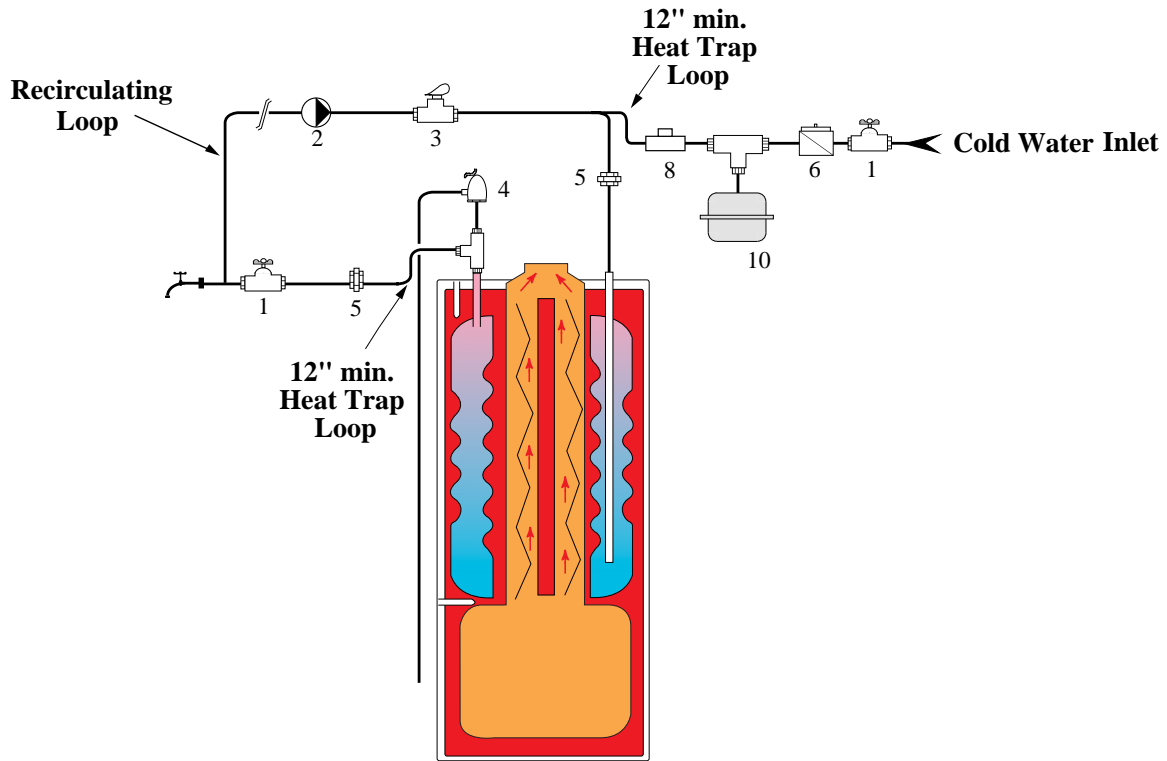

Fig 1: Domestic Piping
- Refer to Fig. 1 of this addendum for recommended domestic piping.
- Factory installed T&P relief valve in run (straight through leg) of tee located at domestic hot water outlet of water heater (Fig.1).
3. Close domestic cold water inlet shut-off valve. See Fig 1.